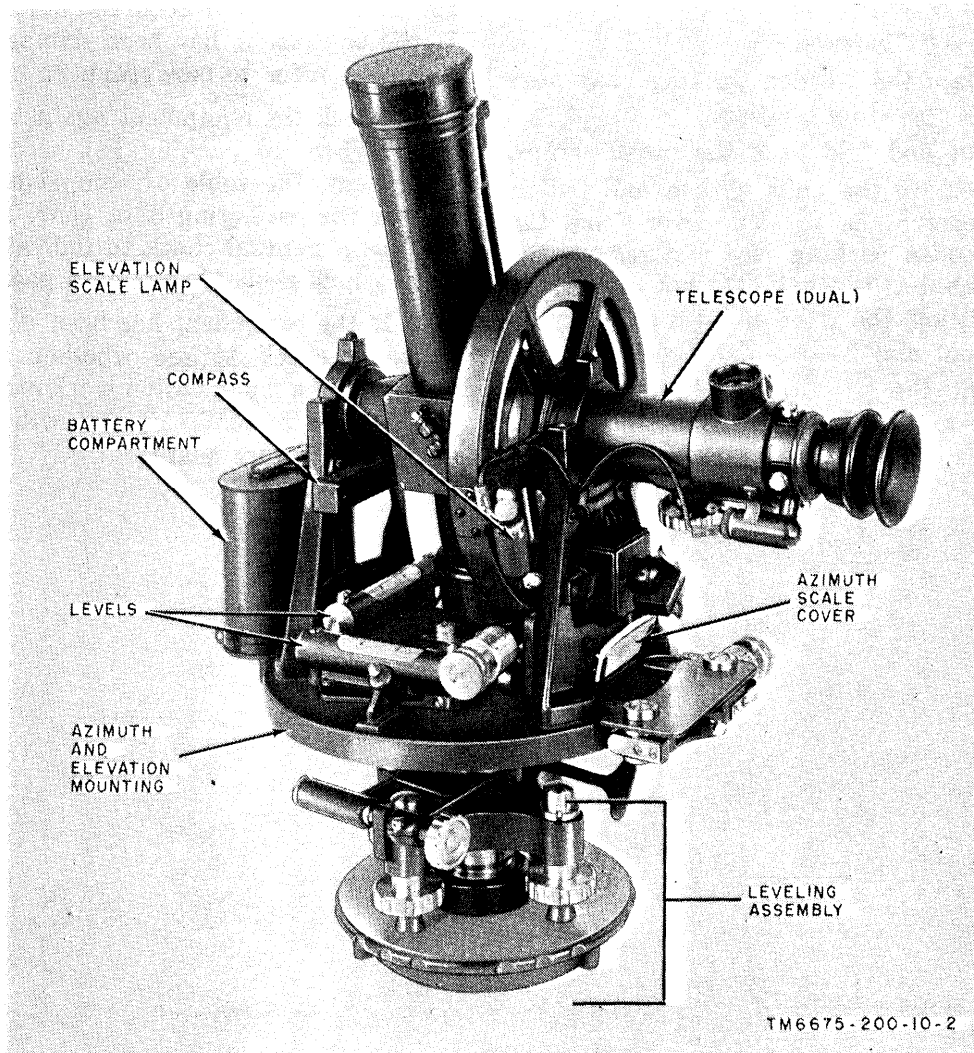

Figure 2. Theodolite, view of telescope, azimuth and elevation mounting, and leveling assembly.
a. The theodolite (fig. 2) consists of a dual telescope, an azimuth and elevation mounting, and a leveling assembly. The operating controls are located on the telescope, the azimuth mounting, and the elevation mounting. The orientation controls are located on the leveling assembly. The battery compartment is located on the azimuth and elevation mounting.
Compass (fig. 2).	Indicates direction of magnetic north.
Levels (fig. 2).	Indicate when theodolite is level.
c. Rotate the azimuth and elevation mounting (fig. 2) until the long axis of each level is parallel to a diametrically opposite pair of leveling screws (fig. 6).
f. Adjust a pair of diagonally opposite leveling screws (fig. 6) until the bubble of the level (fig. 2) that has its long axis parallel to this pair is centered.